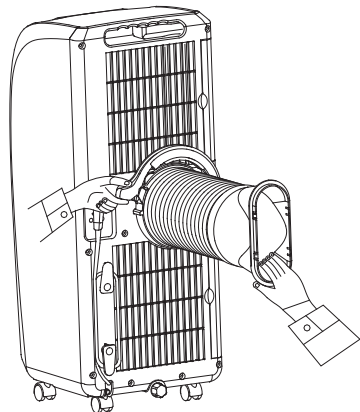

Fig. 3
2. Hold the handle at the end of the C clip with your left hand and the short exhaust tube with your right hand, place one end of the exhaust tube, which is disconnected, on the latch of the lower air inlet bottom, press the exhaust tube clip firmly with your left hand so that the exhaust tube latches onto the latch joint of the back cover (see fig. 3).